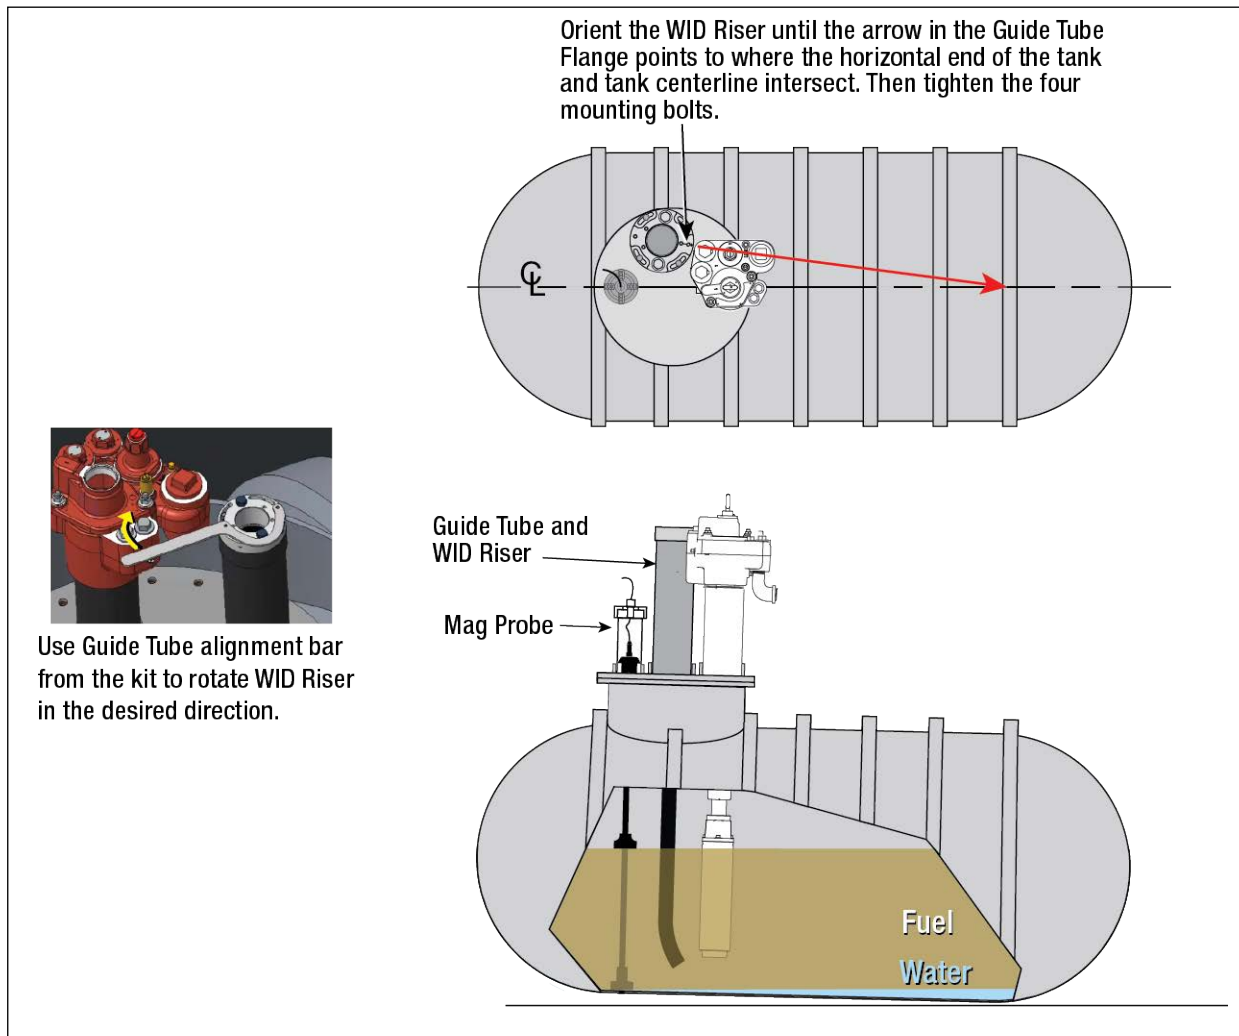
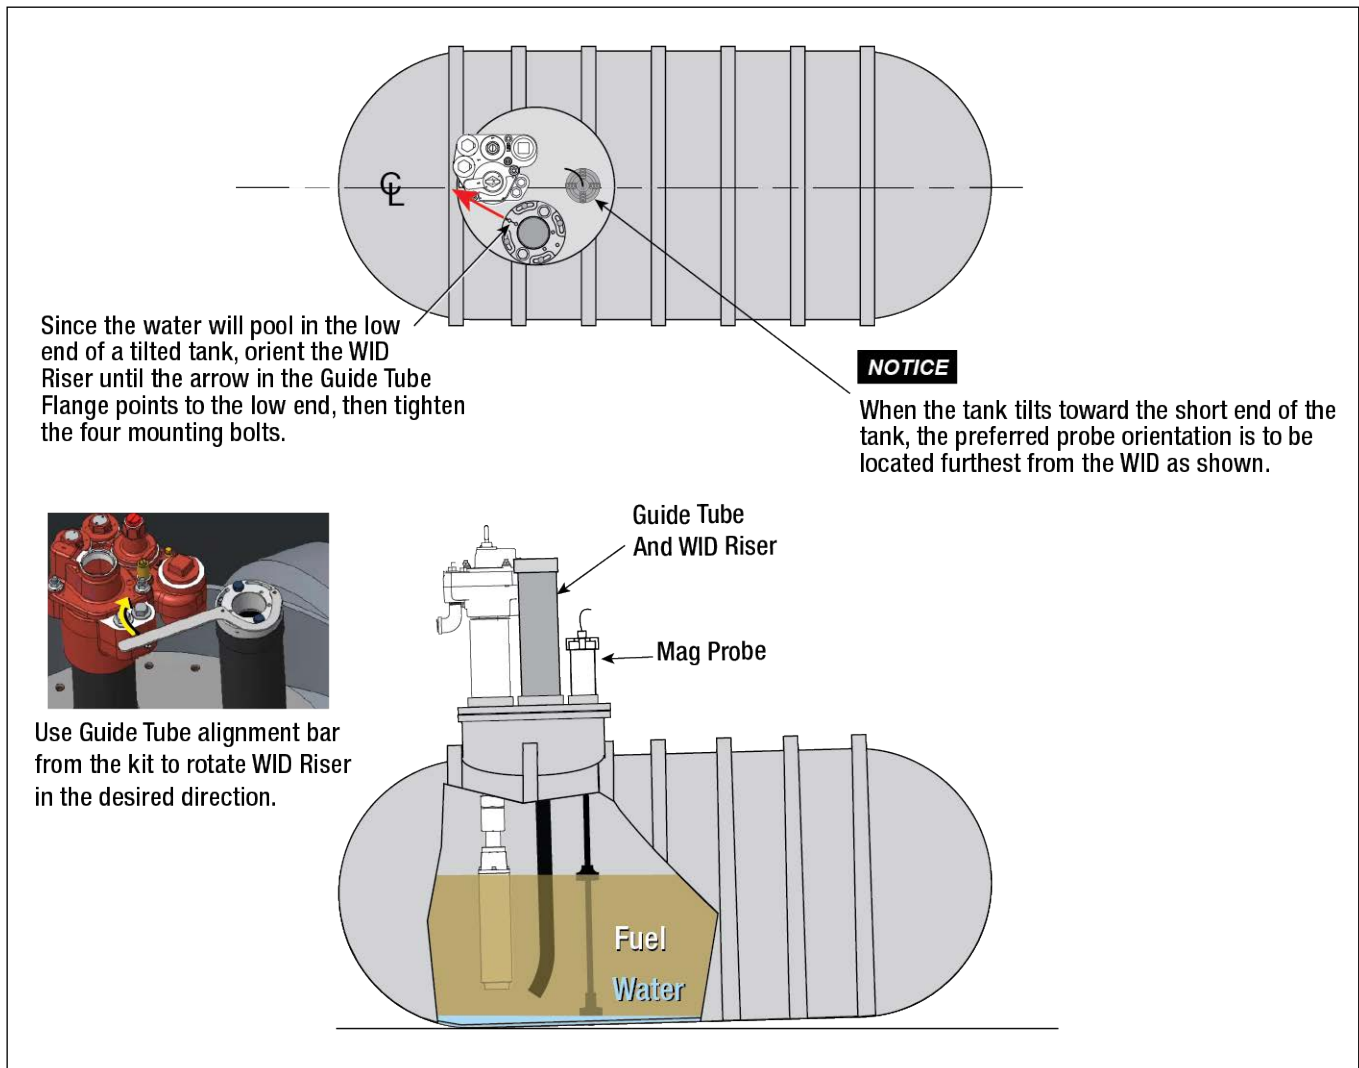

Figure 6. Guide Tube Installation Example - Tank Tilting Away from Manway
Figure 7. Guide Tube Installation Example - Tank Tilting Toward Short End of the Tank
2. Figure 6 shows the preferred location for the WID Riser. Refer to your HydrX Site Inspection Guide to determine the tank tilt. Since the Guide Tube directs the deployment of the Water Intake Device (WID), it must be pointed in the direction of the pooling water. The Guide Tube orientation and WID configuration (1, 3, or 6 tubes) were determined by measurements made in your HydrX Site Inspection Guide.
3. Once the riser is installed, get the Guide Tube assembly and alignment bar from the kit. The Guide Tube is inserted into the riser and sits on the riser flange. Example Guide Tube installations are shown in Figure 6 and Figure 7.